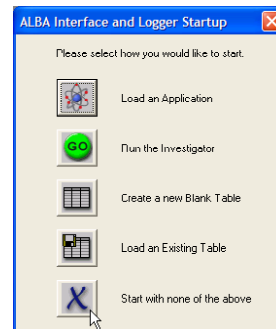

Figure 95
Step 3: Select the icon *Start with none of the above* - Figure 95.